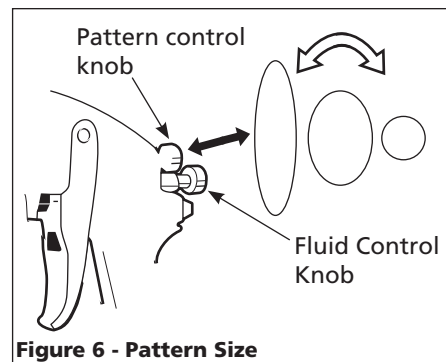

Figure 6 - Pattern Size
2. Set pattern size to desired shape. For full pattern, open pattern control knob by turning counterclockwise. For a round pattern, turn pattern control knob clockwise (See Figure 6).
3. Turn fluid control knob fully clockwise until closed (See Figure 6).